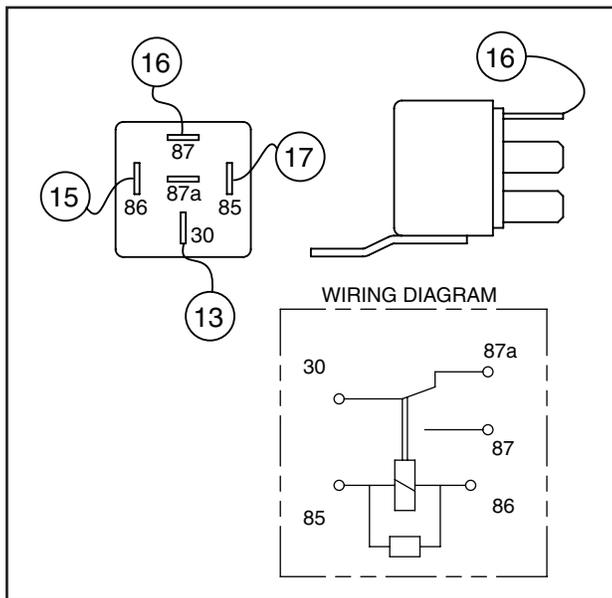

Figure 6-13. – Starter Contactor Relay
4. Disconnect Wire 16 from the Starter Contactor Relay (SCR). See Figure 6-13. This will cause the unit not to crank when placed in the Start position.